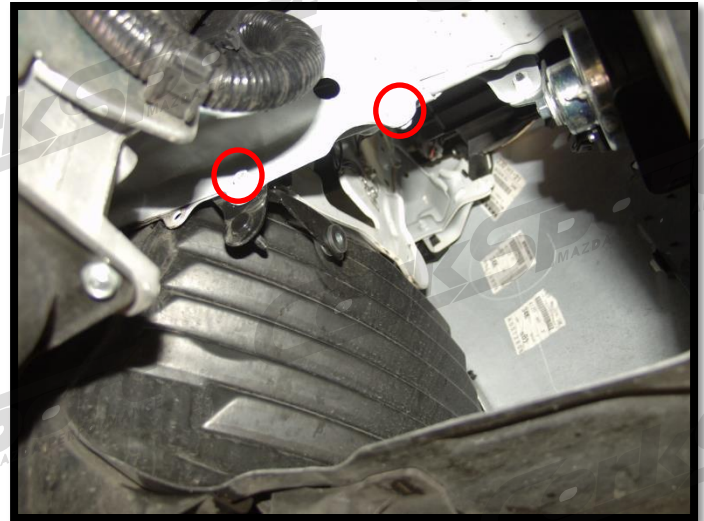

Figure 2d
- d) Remove the two (2) 10mm bolts in the frame rail (red circles in Figure 2d).
- d) **Remove the two (2) 10mm bolts** in the frame rail (**red circles** in **Figure 2d**).